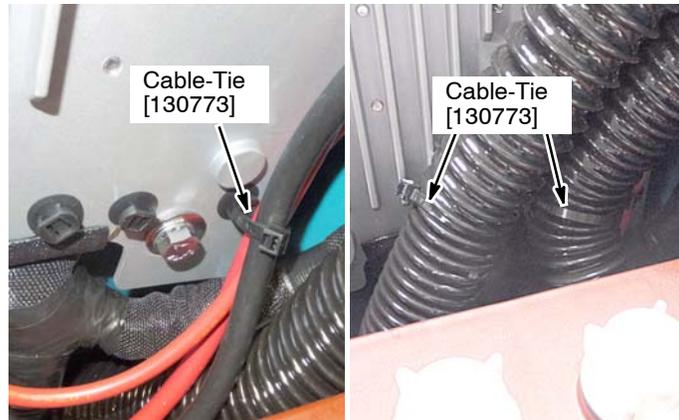

Fig. 13
- Reconnect cables, vacuum hose and drain hose to the heat-sink panel with cable-ties (Figure 13).